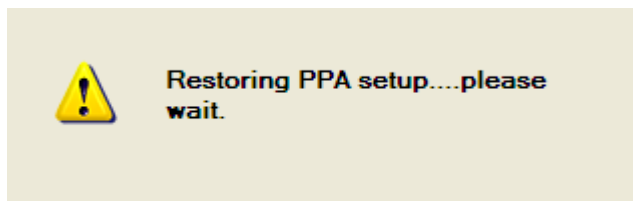

Figure 2-150 Restoring PPA setup notification dialog
- 2 When restoring the 8990B to its factory default settings, a notification dialog is displayed as shown in Figure 2-150.